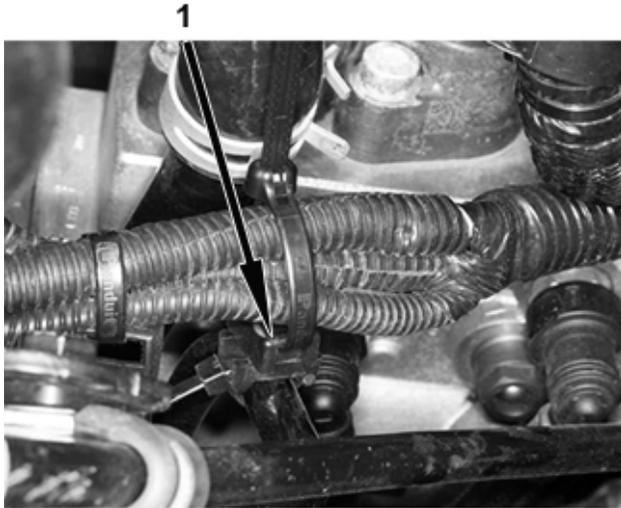

Figure 16
17. Use two cable tie straps (306132C1) to place dual-saddle swivel guide (3614752C1) between oil dipstick tube and alternator harness bundle (Figure 16). Do not fully tighten cable tie straps around oil dipstick tube or alternator harness bundle at this time. They will be tightened in next step.